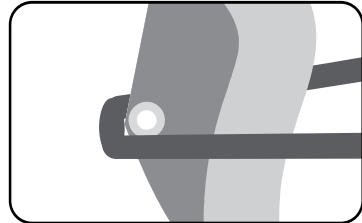

Figure 8: Outhaul sail to the end of the boom
- d) Finally, outhaul your sail to the end of the boom (figure 8).